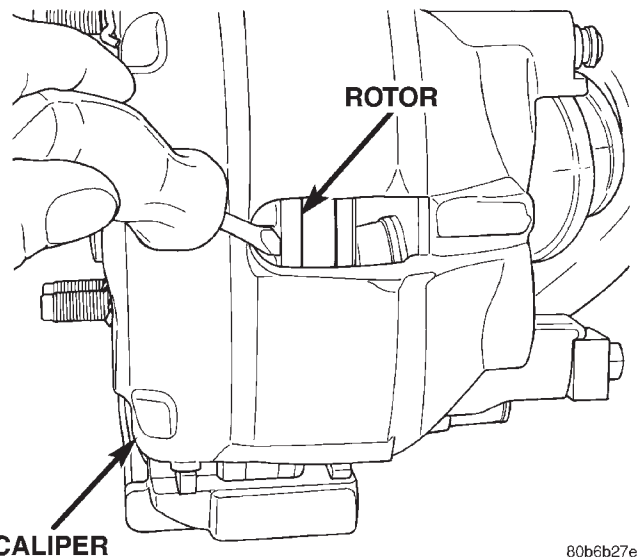

Fig. 27 Bottoming Caliper Piston
- (1) Raise and support vehicle.
- (2) Remove wheel and tire assembly.
- (3) Drain small amount of fluid from master cylinder brake reservoir with **clean** suction gun.
- (4) Bottom caliper pistons into the caliper by prying the caliper over (Fig. 27).